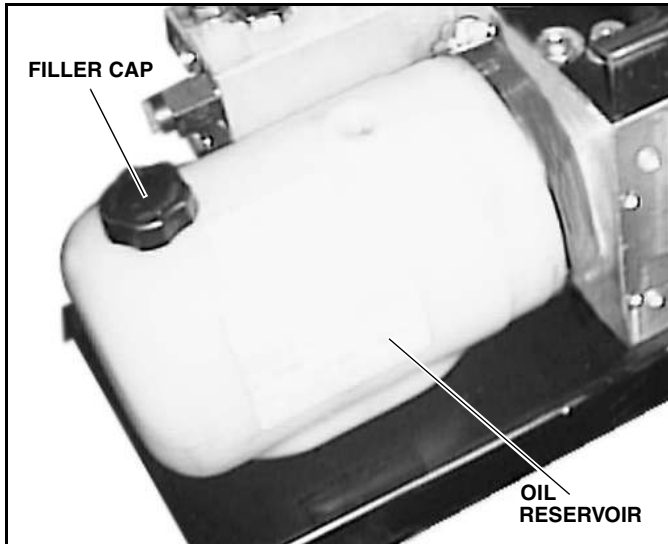

Figure 2-14
2. Remove two (2) self-tapping screws from the front of the cover and loosen two (2) cap screws from the rear. Remove the cover.
3. Remove the filler/breather cap from the reservoir. (See Figure 2-14).
5. Loosen the clamp securing the oil reservoir to the pump assembly and remove the oil reservoir being careful not to damage the filter screen while removing the oil reservoir. (See Figure 2-14).